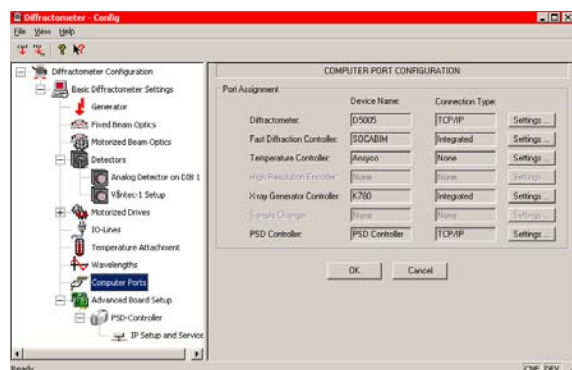

Figure 6.8 - Computer port configuration
1. In Config, go to Computer Ports (see Figure 6.8).
3. In Computer Port Configuration, click **OK** to accept the changes (see Figure 6.8).